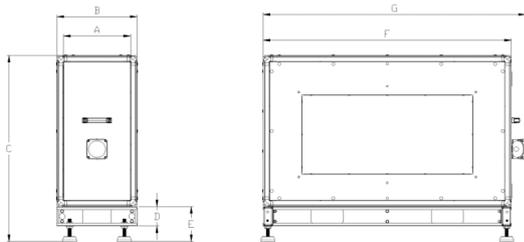

Fig. 69
- Electrical pre heater capacities, weights and dimensions can be seen below. (Fig. 69)